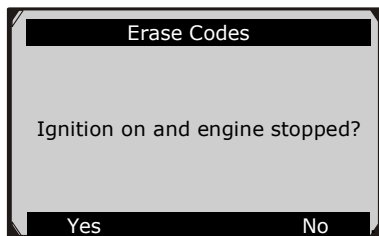

Figure 6.6
- 2) A message will come up asking you to check the ignition and engine status. (Figure 6.6)